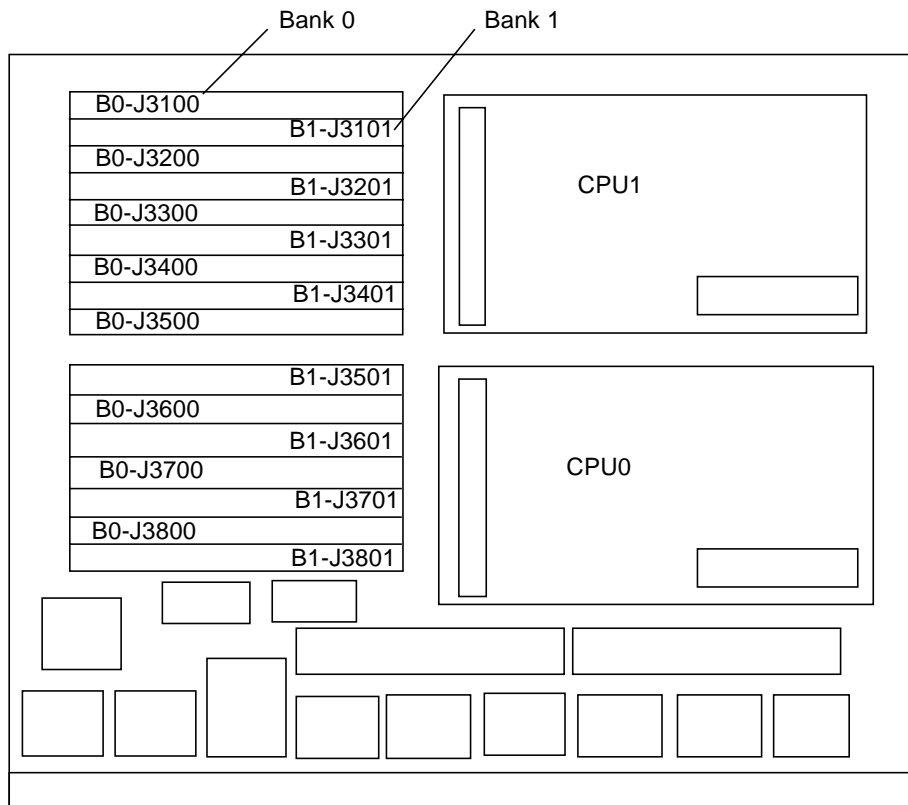

FIGURE 3-12 SIMM Slot Numbers
The CPU/Memory+ board has 16 SIMM sockets, which are divided into two banks of 8 SIMMs each, Bank 0 and Bank 1. Bank 0 and Bank 1 SIMMs occupy alternate slot locations; Bank 0 SIMMs are in the even numbered slots, and Bank 1 SIMMs are in odd numbered slots (FIGURE 3-12).
3. Use the system error messages to locate the slot (FIGURE 3-12) for the SIMM you need to replace.